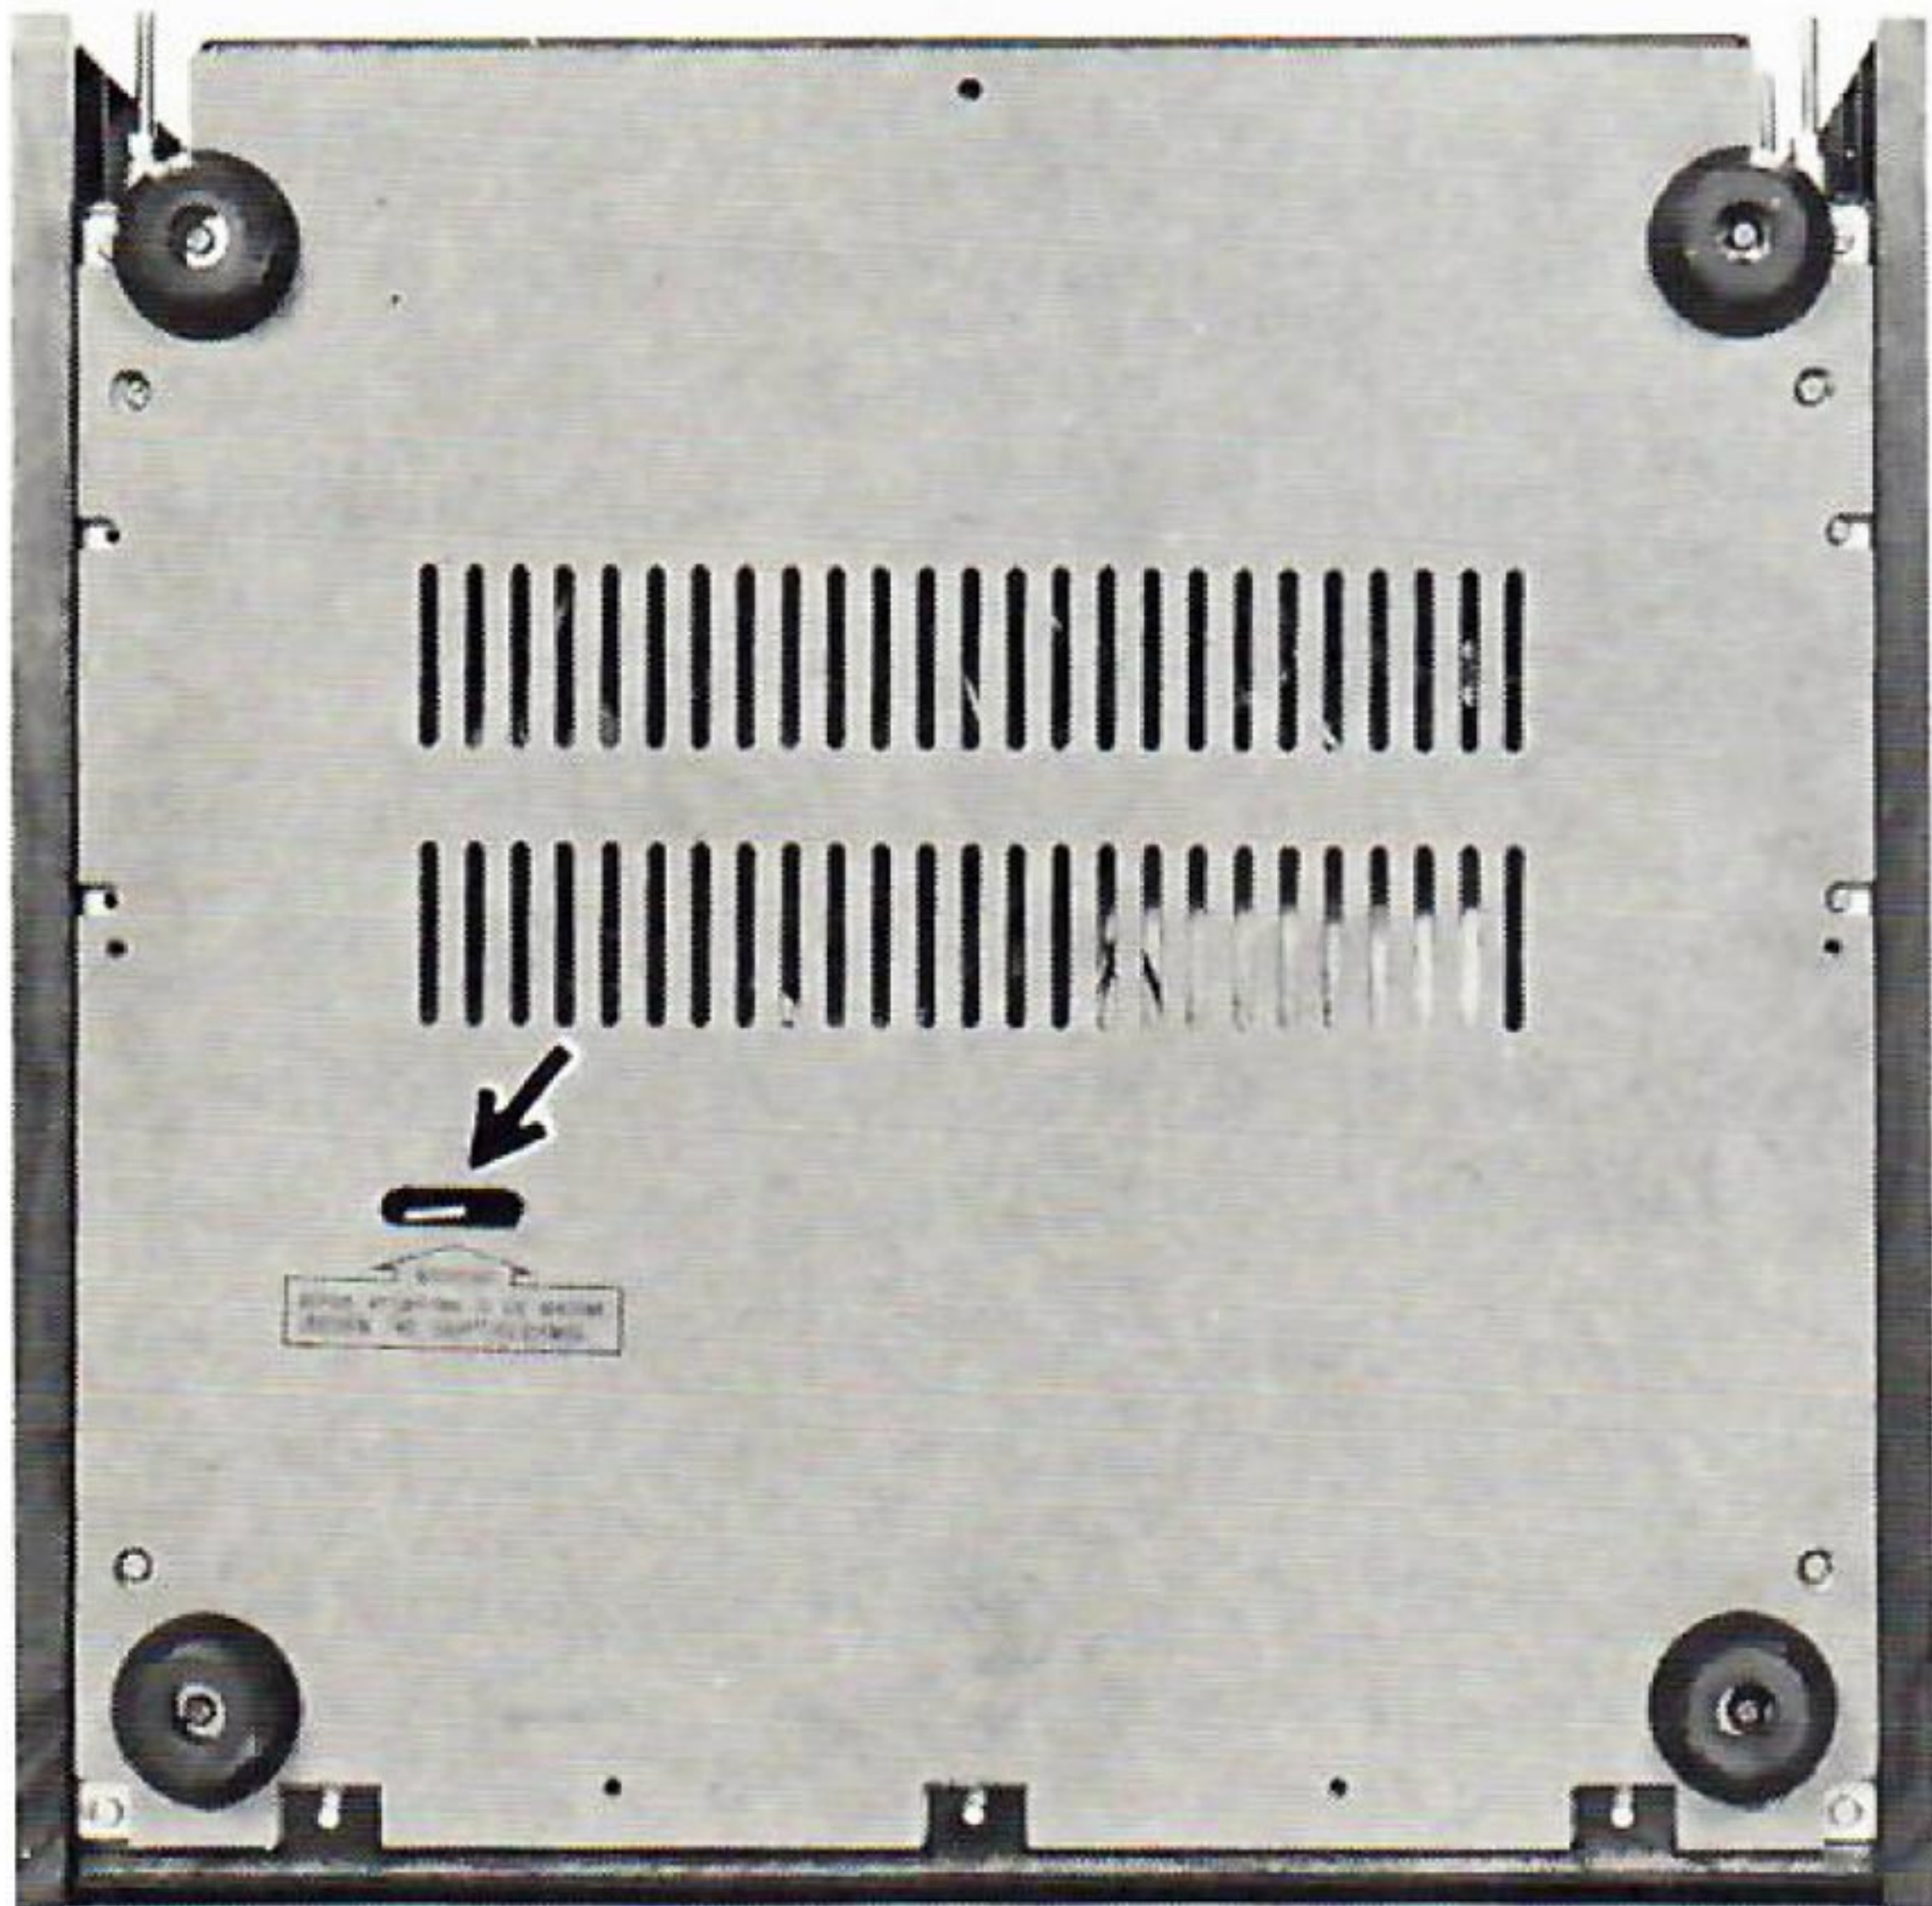

Fig. 1
4. The flywheel on the 1140 is locked to protect it from vibration during shipment (Fig. 1). Remove this screw before use.